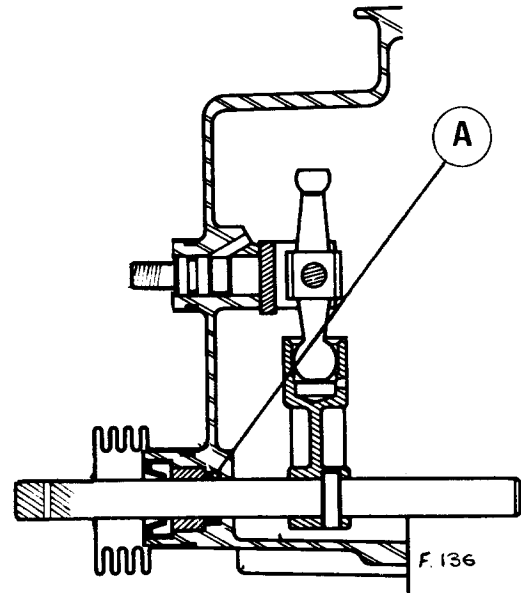

Fig. 74.
1. Fit the felt washer (A of Fig. 74) behind the bush.